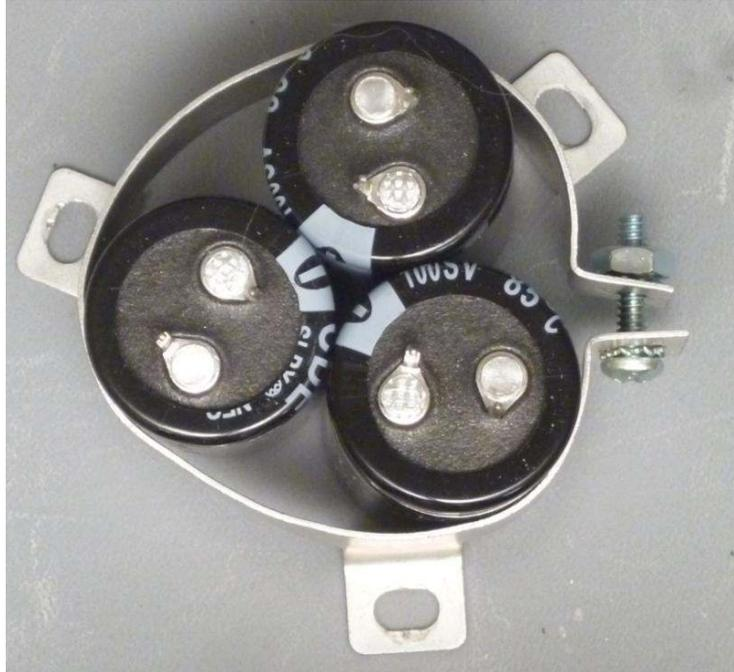

Figure 2-Note the position of the caps, offset from the mounting feet
1. You'll replace C9, a single 2" diameter capacitor with three 25 mm diameter capacitors, as shown in Figure 2.
3. Position the group of three caps as shown in Figure 2. That positioning allows you to slightly bend the clamp to allow all three mounting holes to match the chassis.